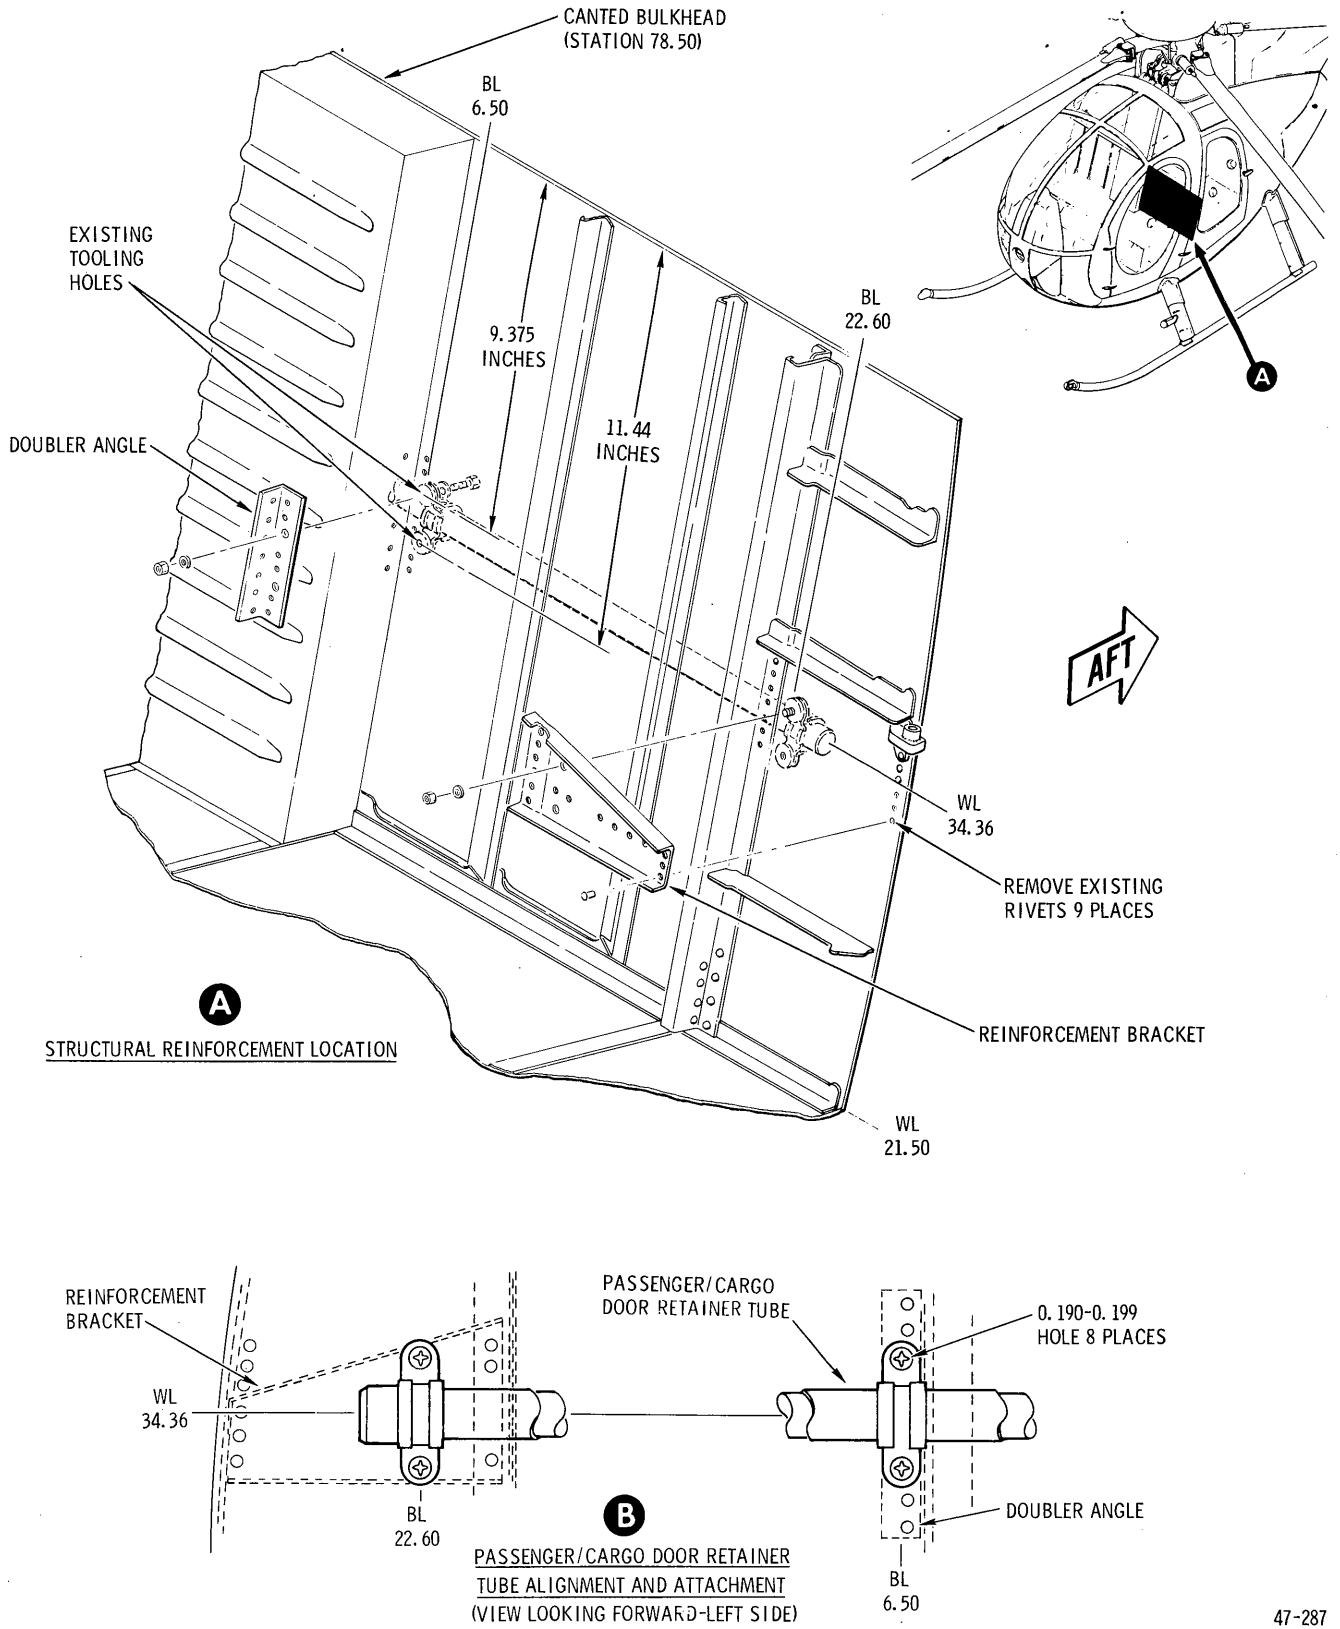

Figure 3-2. Passenger/cargo door retainer tube installation
a. Locate doubler angles (16, fig. 1-2) on forward side of station 78.50 canted bulkhead using two existing 0.070-inch tooling holes (fig. 3-2).
b. Position structural reinforcement brackets (13) on forward side of station 78.50 canted bulkhead as shown in figure 3-2. Locate nine existing rivets which must be removed prior to installation of reinforcement brackets. Remove rivets using drill motor and appropriate drill bit. Use brackets (13, fig. 1-2) as template and determine rivet hole locations on 78.50 bulkhead. Drill rivet attach holes, 0.069- to 0.074-inch diameter using drill motor and appropriate drill bit. Attach brackets (13) to 78.50 bulkhead using rivets (11, 12).
c. Using drill motor and appropriate drill bit, drill eight 0.190- to 0.199-inch diameter holes through station 78.50 canted bulkhead and structural reinforcement angles (16) and brackets (13) at locations shown in figure 3-2.